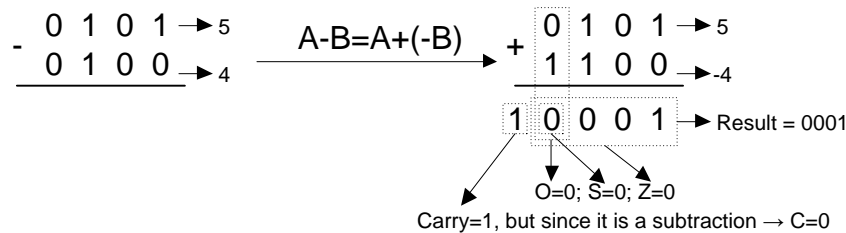

Figure 3.5: 5-minus-4 operation
- ❑ Perform, using paper and pencil, the subtraction of the operands  $A = 5$  and  $B = 4$ , as shown in figure 3.5.